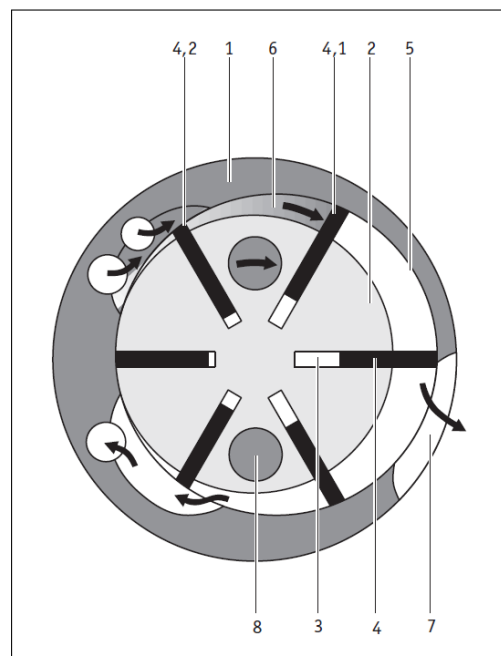

Figure 4: Functioning of the compressed air vane motor
The vane motor (→ Figure 4) consists of a cylinder liner (1) with two lateral bearing washers and an inner rotor (2).